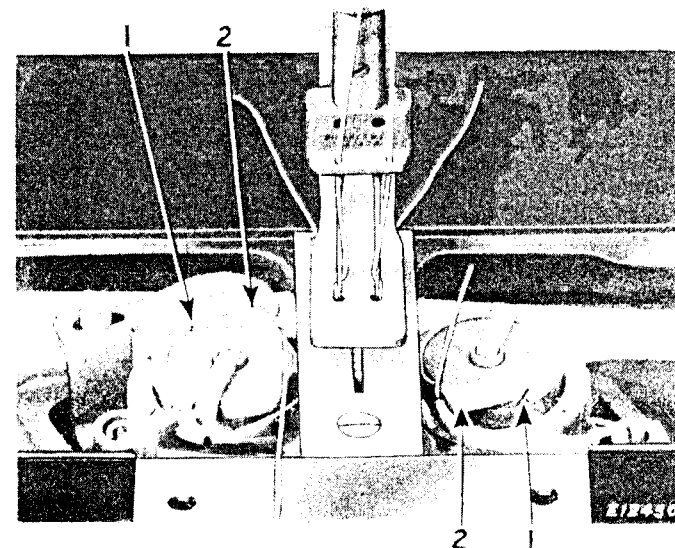

Fig. 9. Threading the Bobbin Cases
Hold the bobbin between the thumb and forefinger of the right hand, the thread drawing on the bottom from left to right, and place it on the center stud of the bobbin case, then push down the latch as shown in Fig. 9. Draw the thread into the slot (1) in the edge of the bobbin case and back of the projection (2) leaving a loose end of thread about two inches long above the slide. When closing the slides, leave just enough space for the threads to pass through.